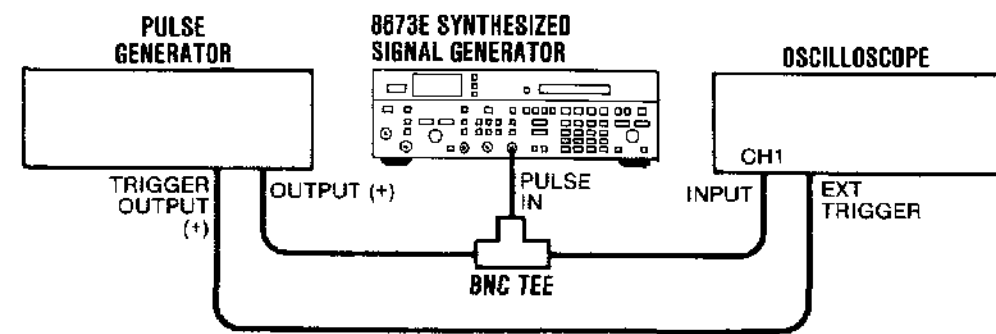

Figure 8-92. Pulse Modulation Test Setup
1. Connect the test equipment as shown in Figure 8-92. Set the pulse generator as follows: